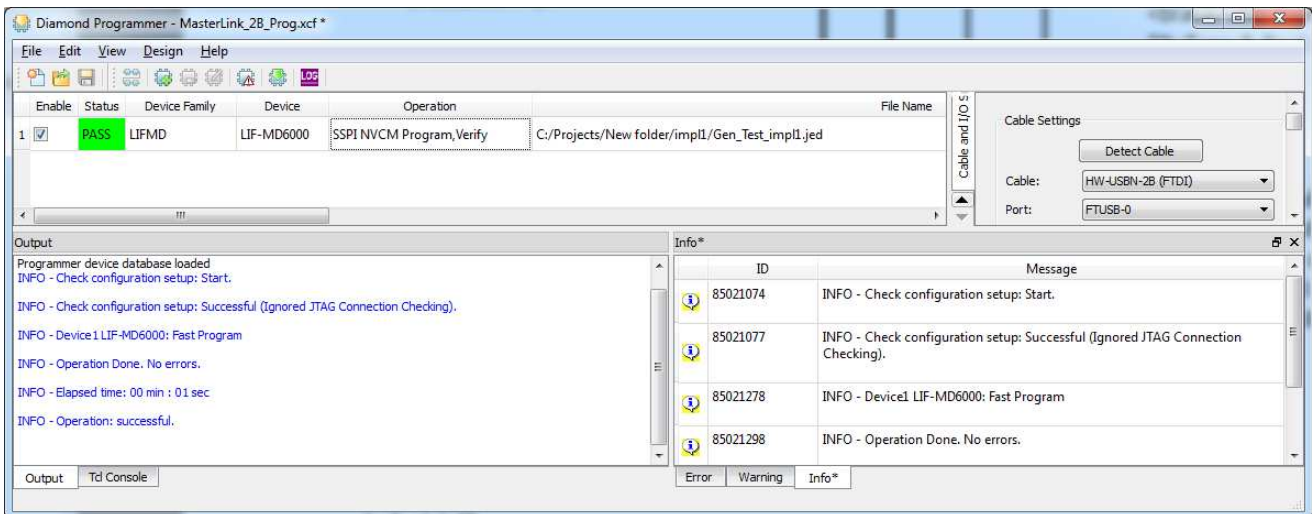

Figure 5.32. CrossLink Family – Programming Completed Successfully
- When the programming of the device is completed, the **Status** option changes to **PASS** and **Operation: successful** message appears in the **Output** console as shown in Figure 5.32.